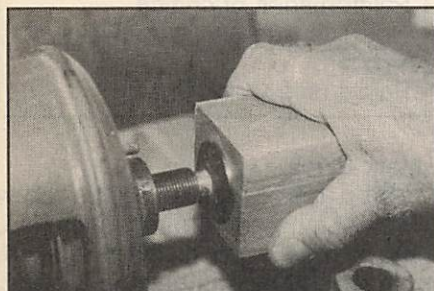

Fig. 9. Using a small faceplate to mount the blank for the Bell.
Step 1. Mount the blank with a small faceplate or 3-jaw chuck (see Fig. 9).